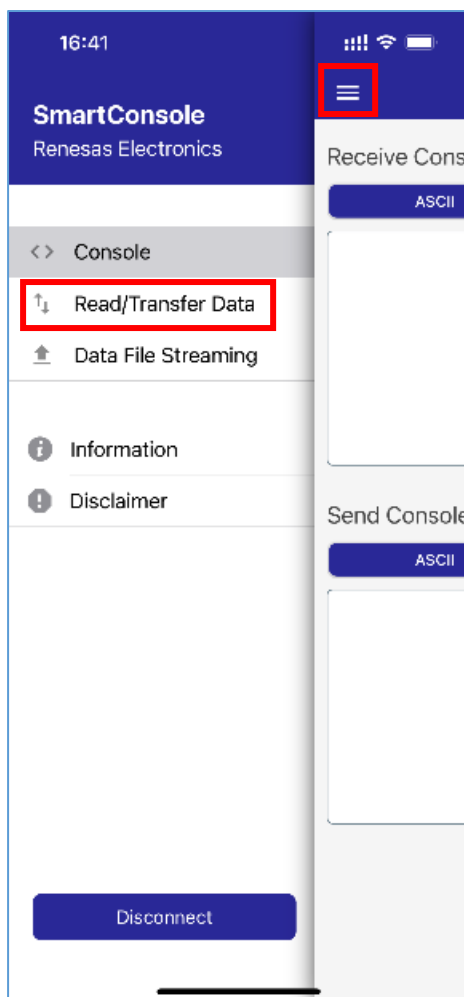

Figure 8. List Menu – Read/transfer Data
3. Tap the List Menu icon on the left upper corner of the screen and select the second operation mode – *Read/Transfer Data* (see Figure 8).